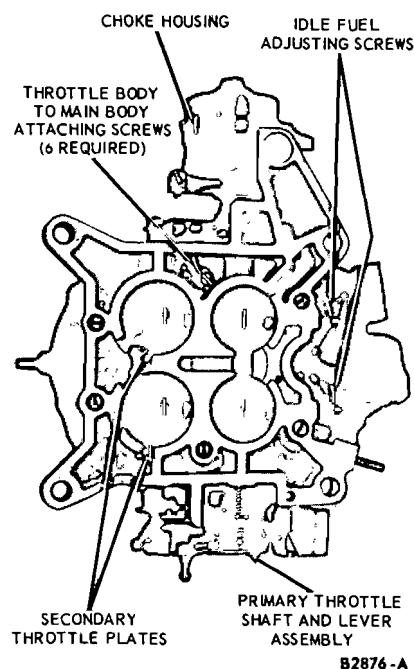

FIG. 13—Throttle Body—Bottom View
1. Remove the throttle body to main body screws from the bottom of the throttle body (Fig. 13) and separate the two castings.